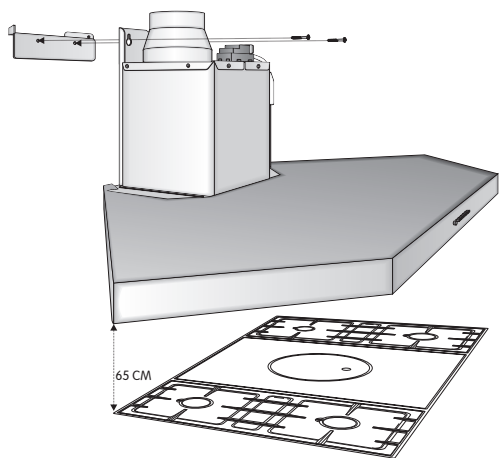

Fig. 8
- Preferably use a Ø150 or Ø125 tube, or possibly flexible, and fix it with a hose clamp to the reduction fitting (Fig 8).